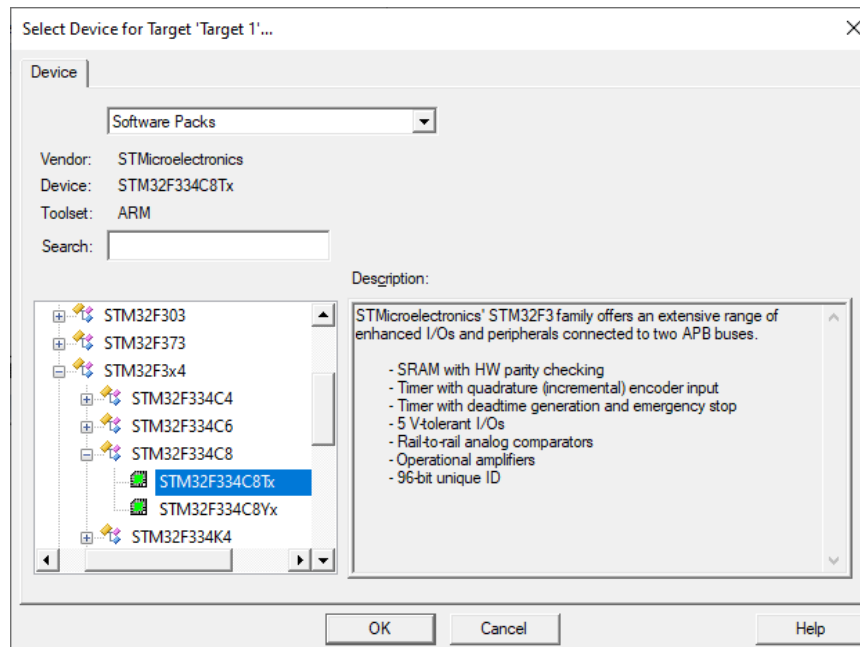

Figure 2. Select the STM32F334C8T6 microcontroller.
2. In the *Select Device for Target* window (Figure 2), select microcontroller **STM32F334C8T6**.